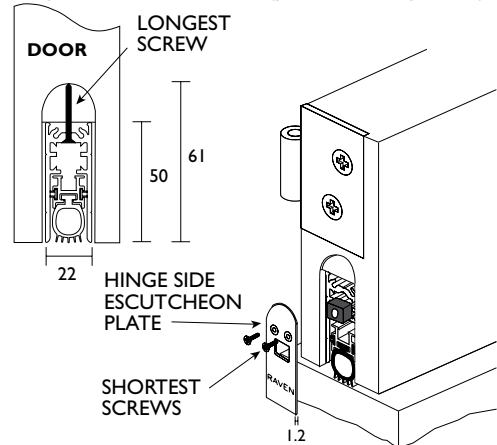
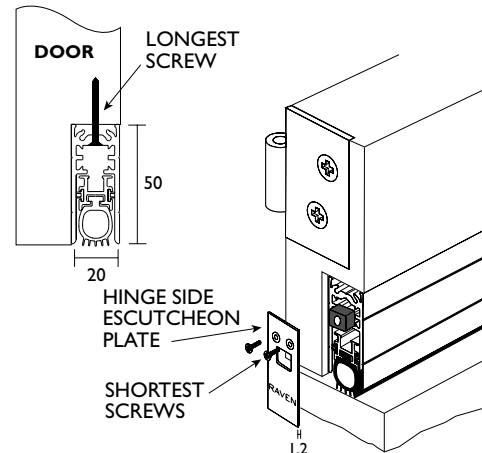

FIG. 1
FIG. 1A
STEP 2 Measure the width of the door/s. **Machine cut** RP99Si to this length less 4mm shorter. Cut latch end only. To allow for operating clearance, file the cut end of the inner extrusion 1mm shorter. Trim gasket. **(FIG.1)**
STEP 4 At locations shown in the drilling plans **(FIG.5) PAGE 5**, drill 4.0mm diameter holes through top of **base assembly** aluminium in groove supplied. **(FIG.1A)**
STEP 5 Wind adjustment block all the way in. **(FIG.1)** Refer **STEP 10**.
STEP 7 Caution: Carefully withdraw moveable assembly just far enough to allow screw fixing. Over extension may void warranty. Screw fix using **longest** screws supplied. **(FIG.1 & FIG.1A)**
STEP 11 The seal is factory set to seal a door bottom that is parallel with the floor (excludes 600mm unit length). To adjust, screw **level adjustment screw** with a Phillips head screwdriver. **(FIG.1A)** **Note:** Adjustment is very sensitive. Screw clockwise to bias seal on **latch side**. Screw anti-clockwise to bias seal on **hinge side**.